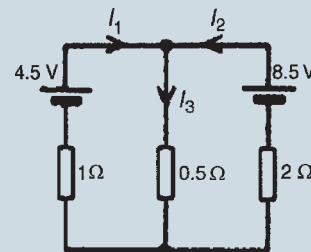

Figure 15.25
1. Use the superposition theorem to find currents I_1 , I_2 and I_3 of Fig. 15.25.